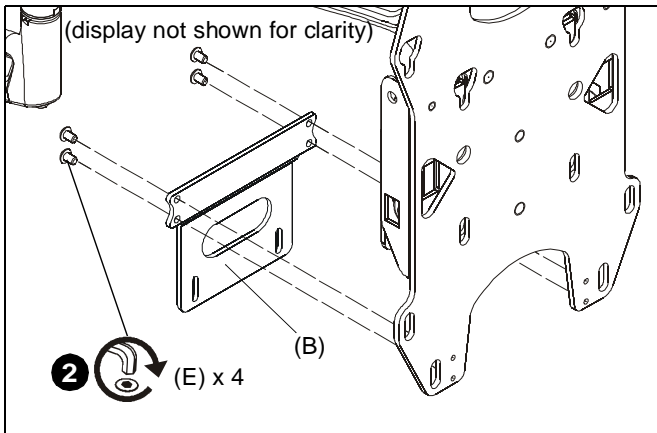

Figure 2
2. Use four #10-24 x 1/4" button head cap screws (E) to connect second attachment bracket (B) to lower holes on swing arm faceplate. (See Figure 2)